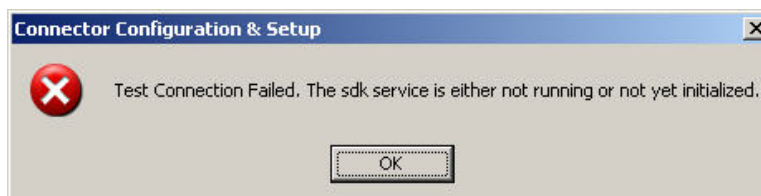
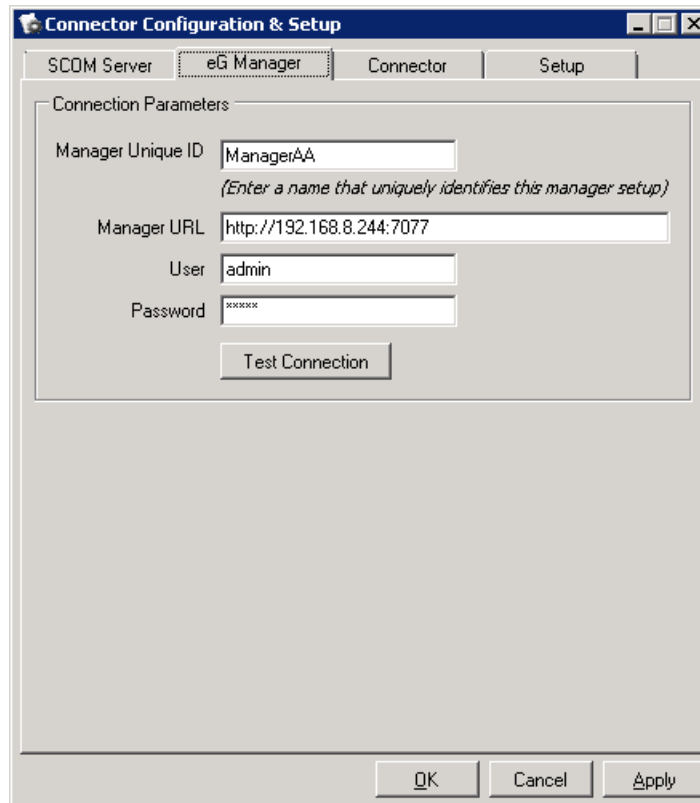

Figure 3.10: Connect to the SCOM server failed
Figure 3.11: Configuring the eG Manager
6. In case of a failure, first click the **OK** button in Figure 3.10 to close the message box. Then, take another look at your specifications, make changes wherever necessary, test the connectivity yet again, and if successful, proceed with your configuration. To proceed, click the **eG Manager** tab page in Figure 3.11. Typically, the eG connector polls the eG manager for discovering the managed components/layers/tests/descriptors/measures from the eG Enterprise system and inserting corresponding monitoring objects and unit monitors in the SCOM server. Using the **eG Manager** tab page of Figure 3.11, you can indicate which eG manager is integrating with the SCOM server and how to connect to it. As part of this exercise, specify the following:
7. Then, click on the **Apply** button in Figure 3.11 to apply the changes.